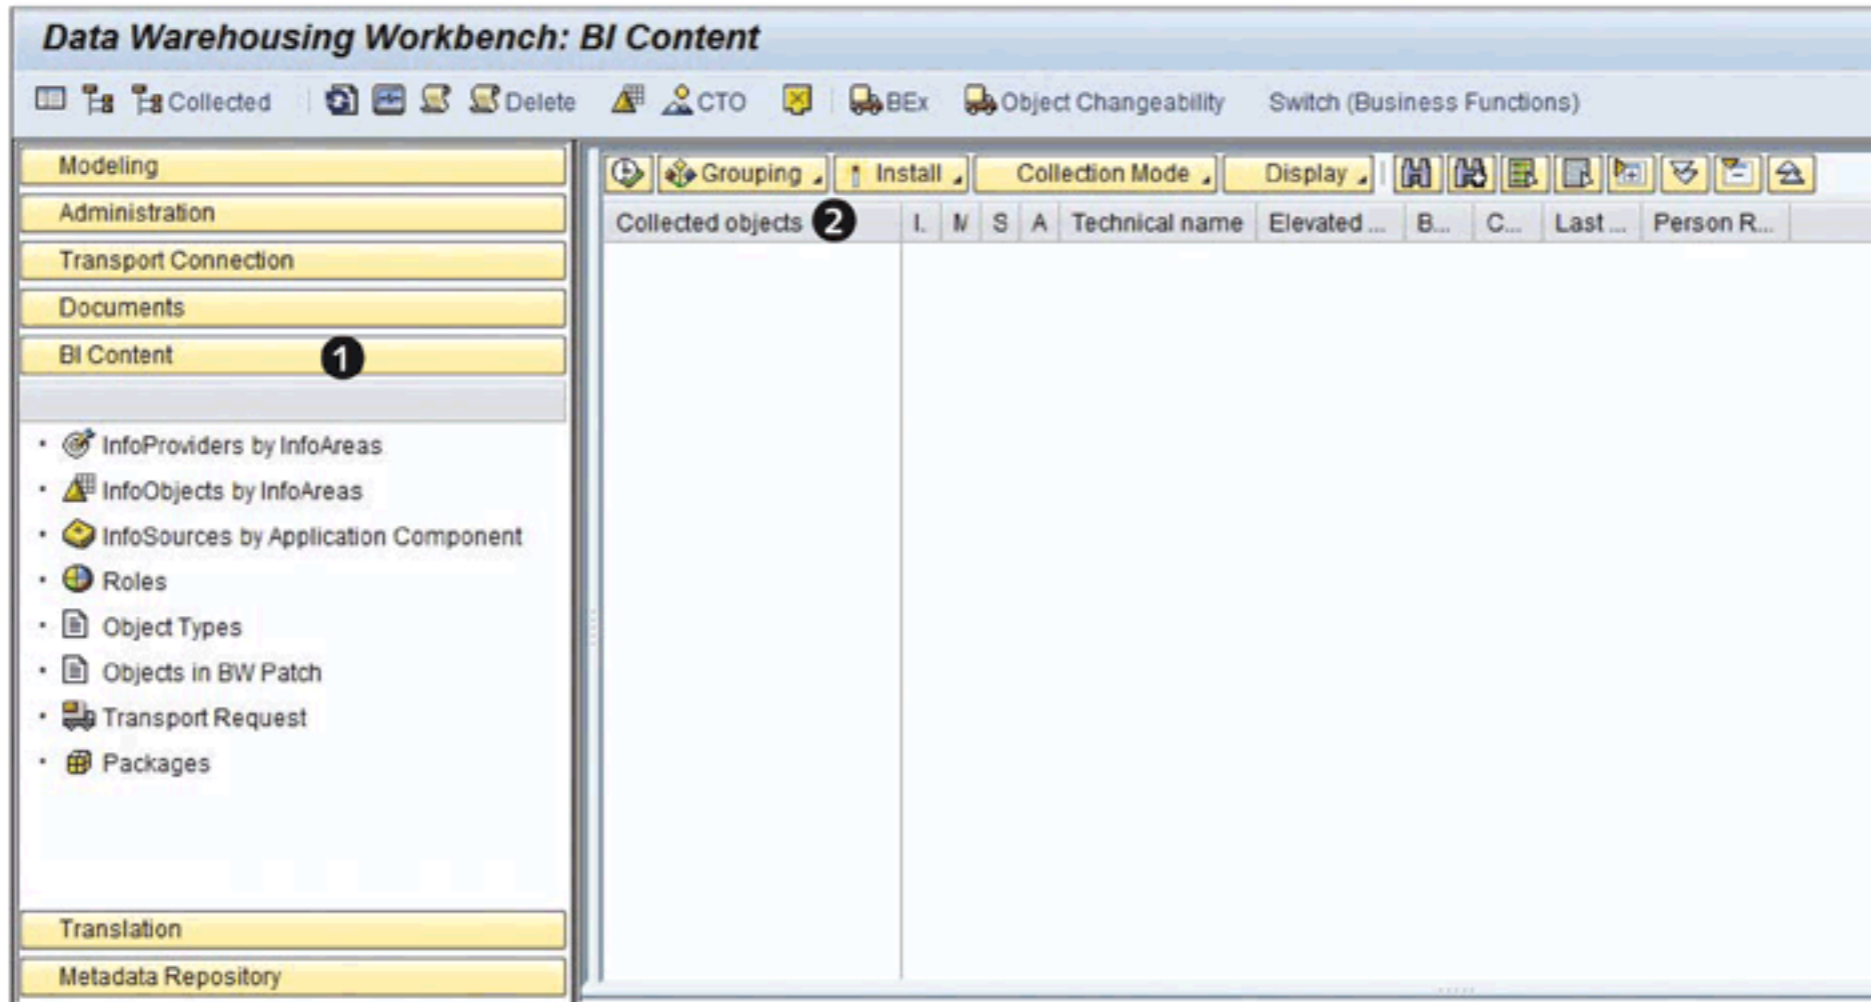

Figure 2.23 BI Content Initial Screen
As shown in ❶ of Figure 2.23, various options are listed under BI CONTENT. The various options allow you to select objects in an effective manner. The right panel shows the screen for collected objects (❷).